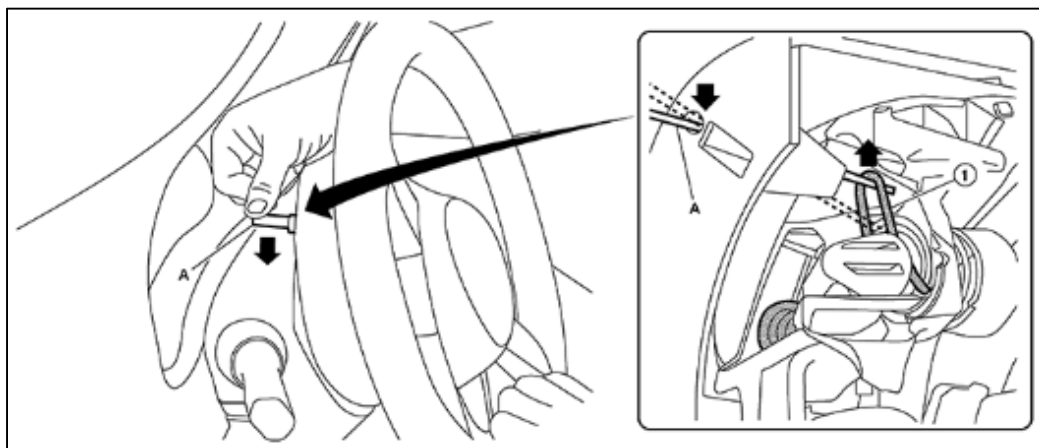

Figure 5
- Lift the spring (1) using the Airbag Release Tool (A), to disengage the spring, as shown in Figure 5.